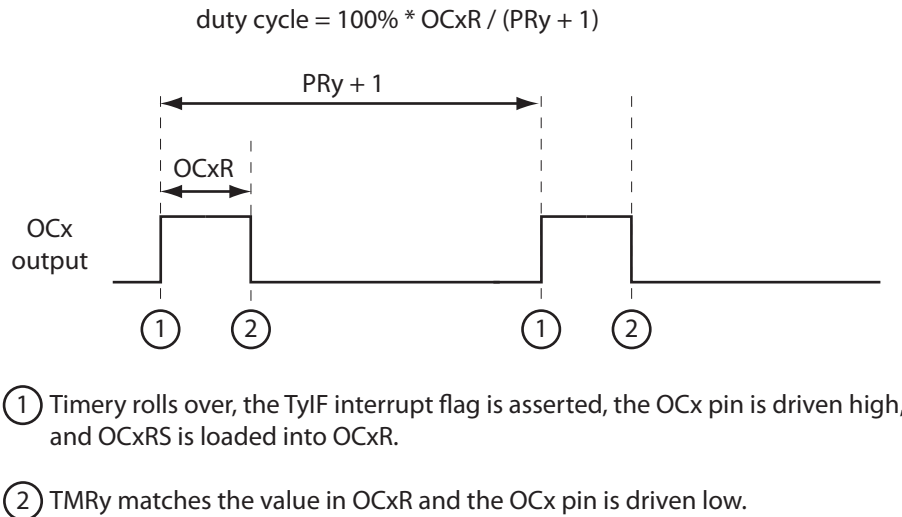

Figure 9.1: A PWM waveform from OCx using Timery as the time base.
**PWM Modes** The most common modes for Output Compare are the PWM modes. They can be used to drive H-bridges powering motors or to continuously transmit analog values represented by the duty cycle. Microchip often refers to the duty cycle as the duration `OCxR` of the high portion of the PWM waveform, but it is more standard to refer to the duty cycle in the range 0 to 100%. A plot of a PWM waveform is shown in Figure 9.1.